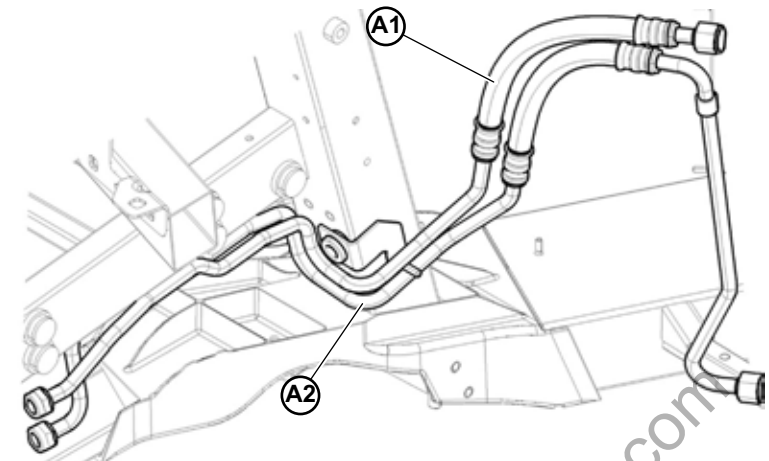

Fig.7
4. Remove and extract the front **A1** and **A2** gearbox oil circuit pipes (**Fig.7**).